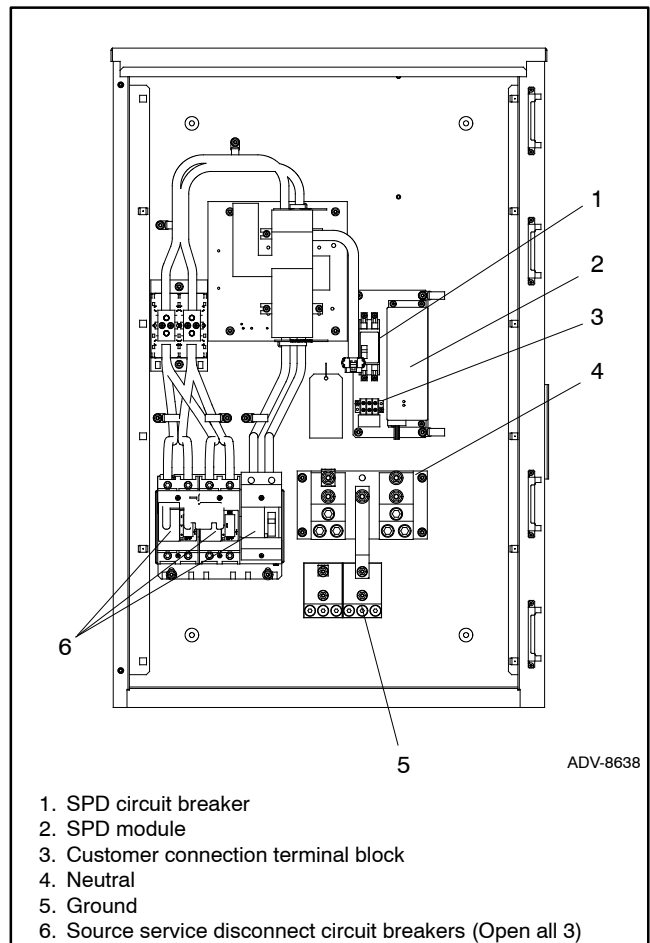

Figure 4-4 SPD Module Replacement
The green indicator light goes out if the SPD capability is exceeded or if there is an internal safety component failure in the SPD module. See Figure 4-3. Replace the module if the green indicator is off and the red indicator is on. Follow the replacement procedure in this section and see Figure 4-4.
5. See Figure 4-4 and the service entrance switch wiring diagram in Section 6.